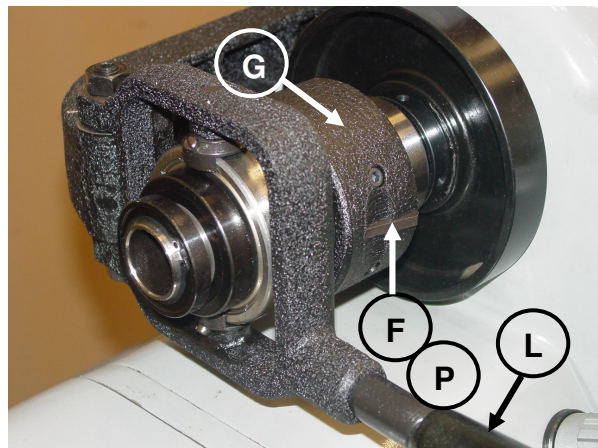
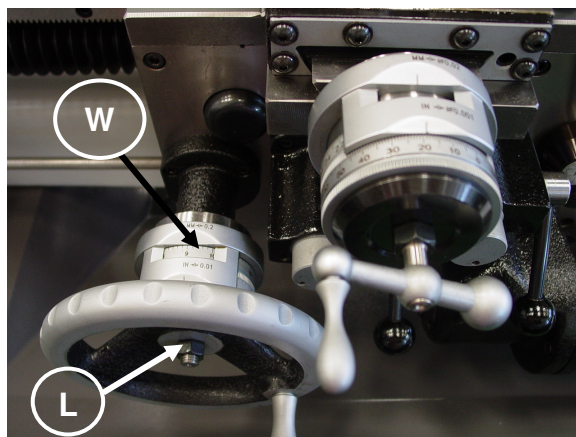

Figure 22-Collet Closer Adjustment
Figure 23-Carriage Indicating
3. Press the Closer Adjusting Finger "F" (Figure 22) down to the point "P" (Figure 22).
4. Guard "G" (Figure 22) forward with the left hand, and hold the collet or stop chuck with the right hand at the same time.
6. Place lever "L" (Figure 22) to the extreme left fixed position. Turn the Shell Guard "G" (Figure 22) toward operator until the work piece is clamped by the collet.
7. Place lever "L" (Figure 22) to the right, the released position. Turn Shell Guard "G" (Figure 22) toward operator, move the Adjusting Finger "F" (Figure 22).
8. Test collet closer's tension on work piece. If the work piece needs additional gripping pressure, press down on the adjusting finger "F" (Figure 22) and turn Shell Guard "G" (Figure 22) forward and lock. (see Figure 22).
Dual dials with Inch and Metric Handwheel dial "W" (Figure 23) graduations are in 0.01" 0.2mm. It is built for the operator's convenience of operation. (Figure 22) Spring loaded indicating ring, just turn to required location by loosening lock screw "L" (Figure 23) Sliding cover cage exposes only the dial in use.